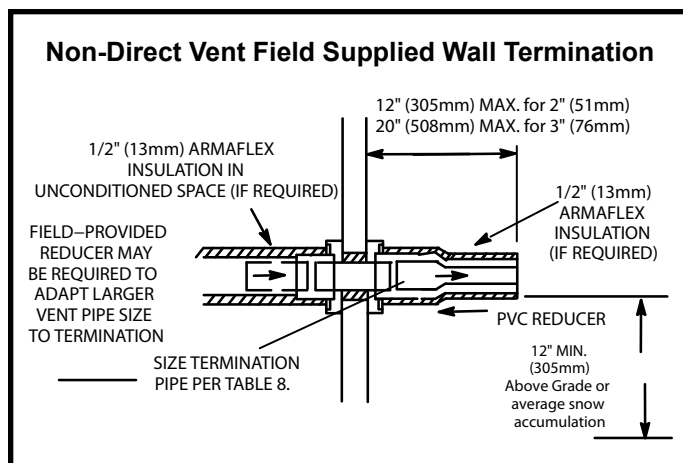

Figure 41
2. On field supplied terminations for side wall exit, exhaust piping may extend a maximum of 12 inches (305 mm) for 2" PVC and 20" (508 mm) for 3" (76 mm) PVC beyond the outside wall. See Figure 41.